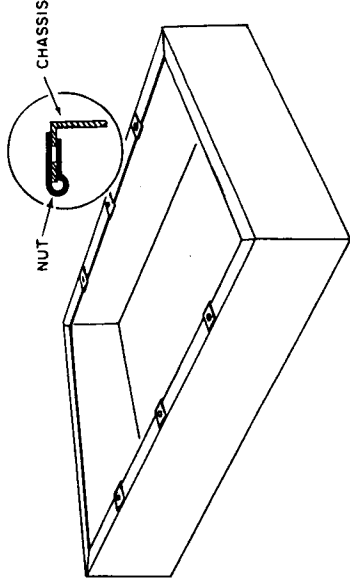

Figure 7. Location of Bottom Plate Speed Nuts
- ( ) 4. Press a No. 8 tinnerman speed nut in place over each hole on the bottom flange of the chassis. (See Figure 7).